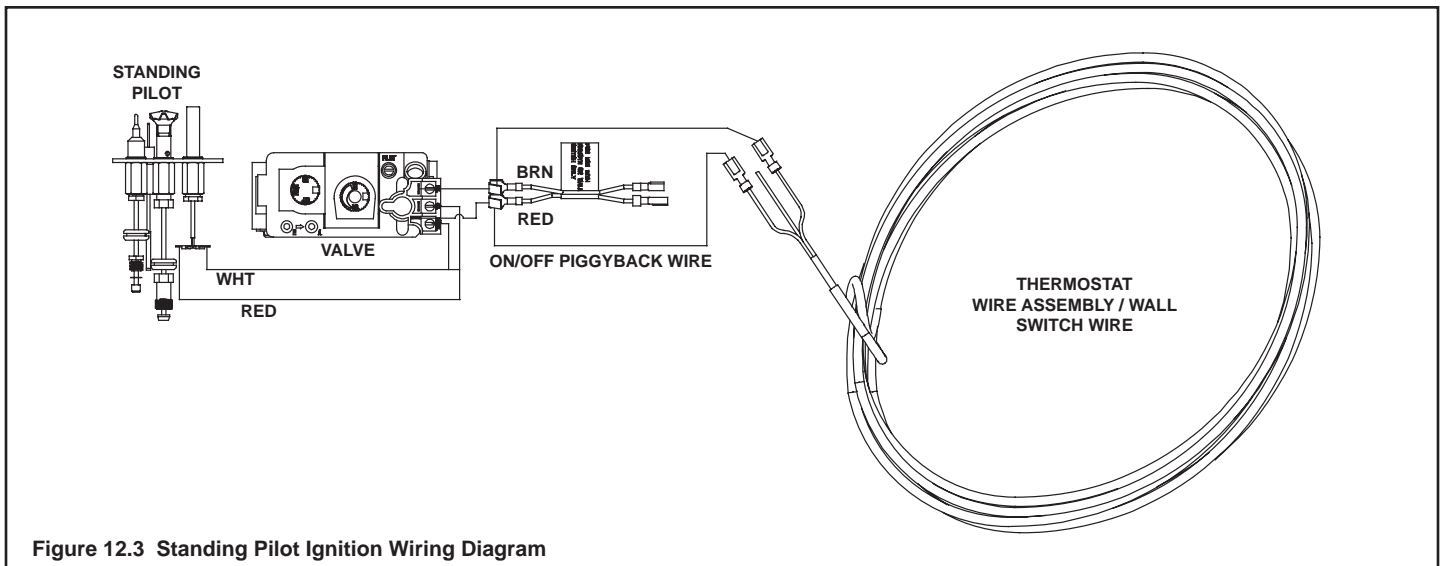

Figure 12.3 Standing Pilot Ignition Wiring Diagram
- The standing pilot ignition system wiring does not require a 110 VAC supply to operate. See Figure 12.3